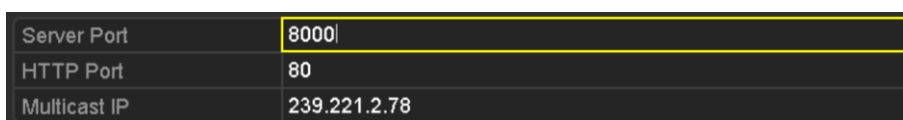

Figure 11. 18 Host/Others Settings Menu
2. Select the **More Settings** tab to enter the More Settings interface, as shown in Figure 11. 15.